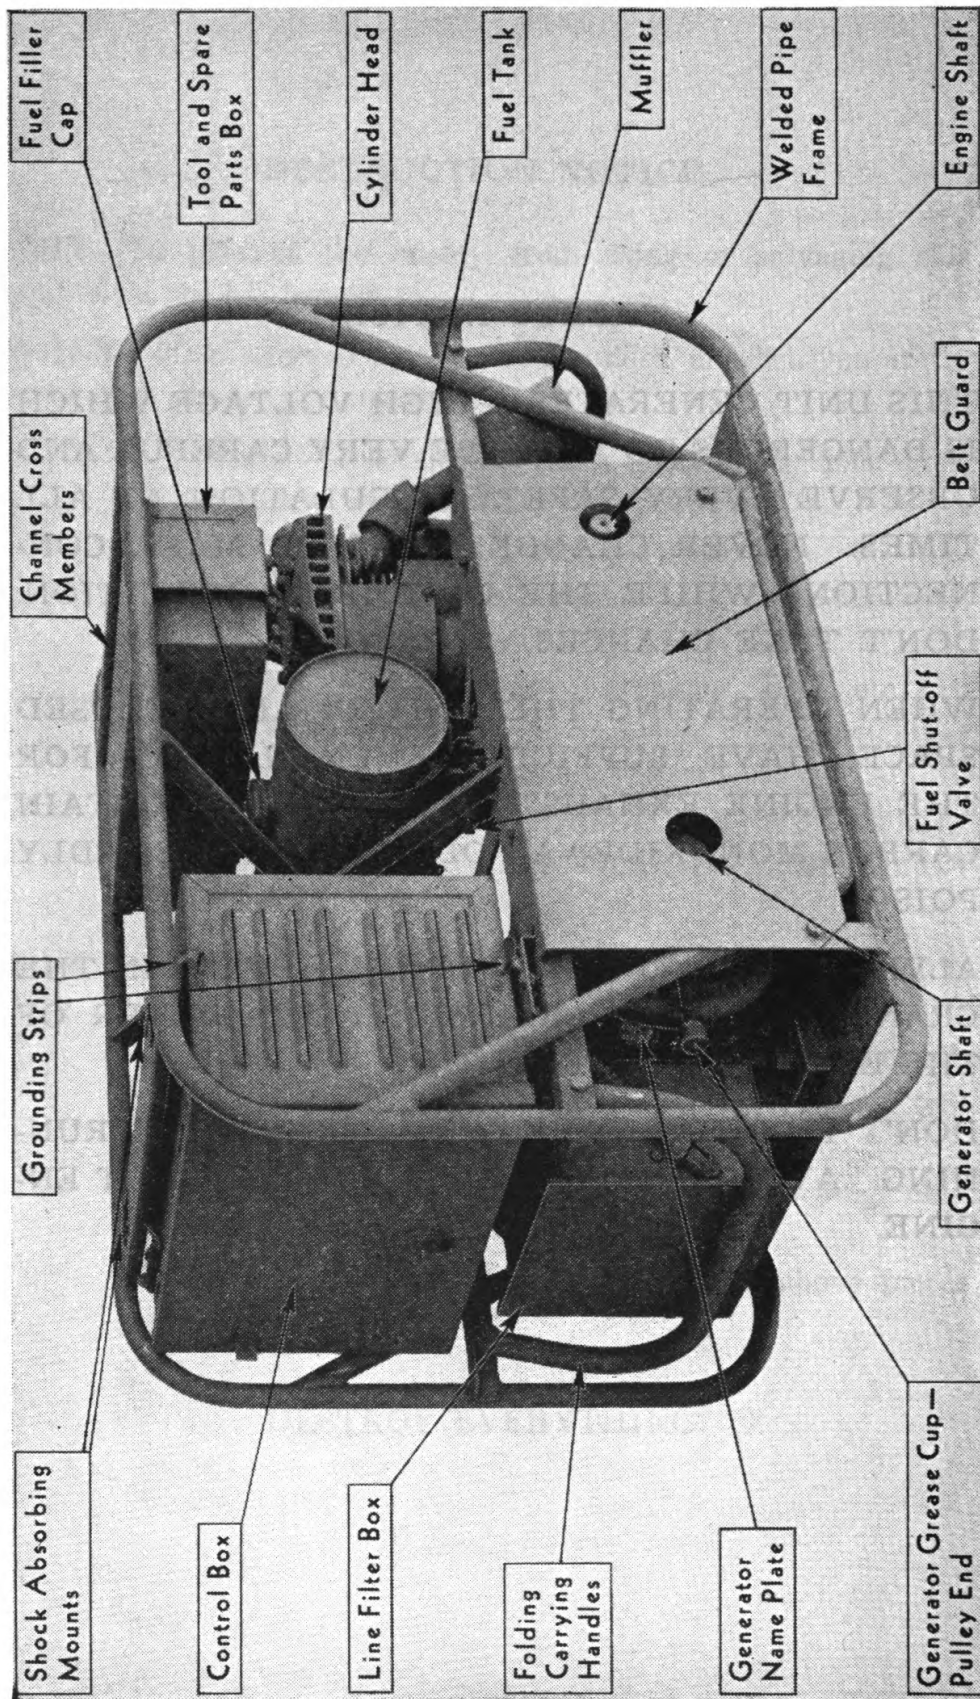
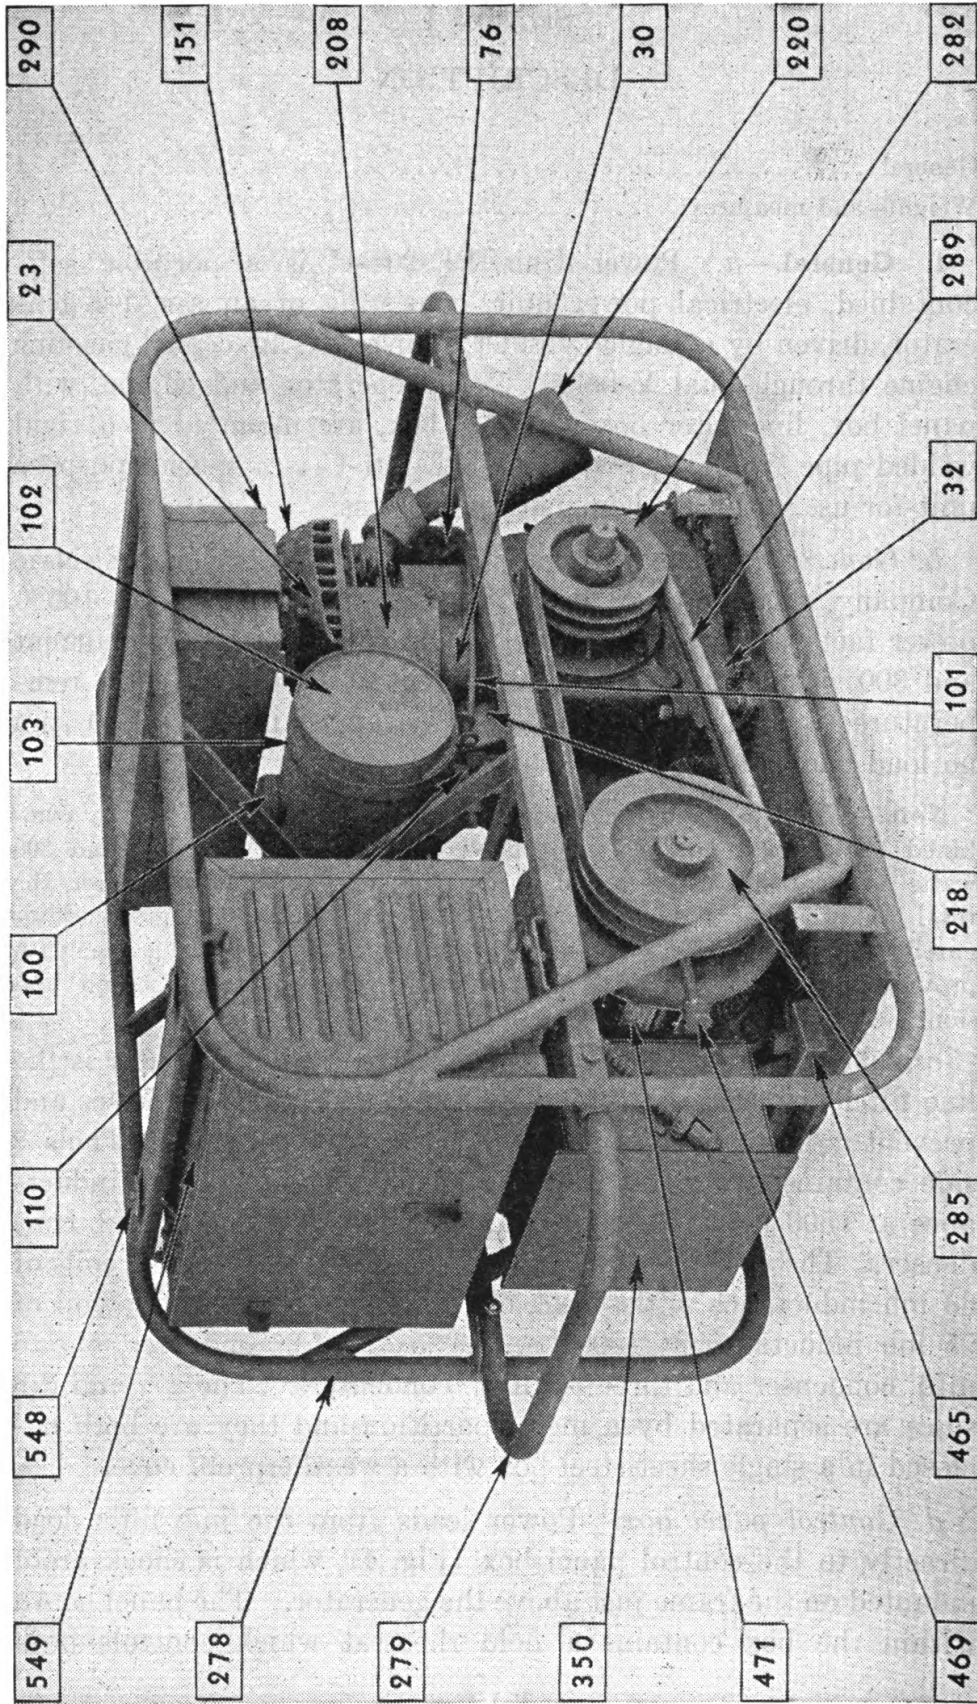
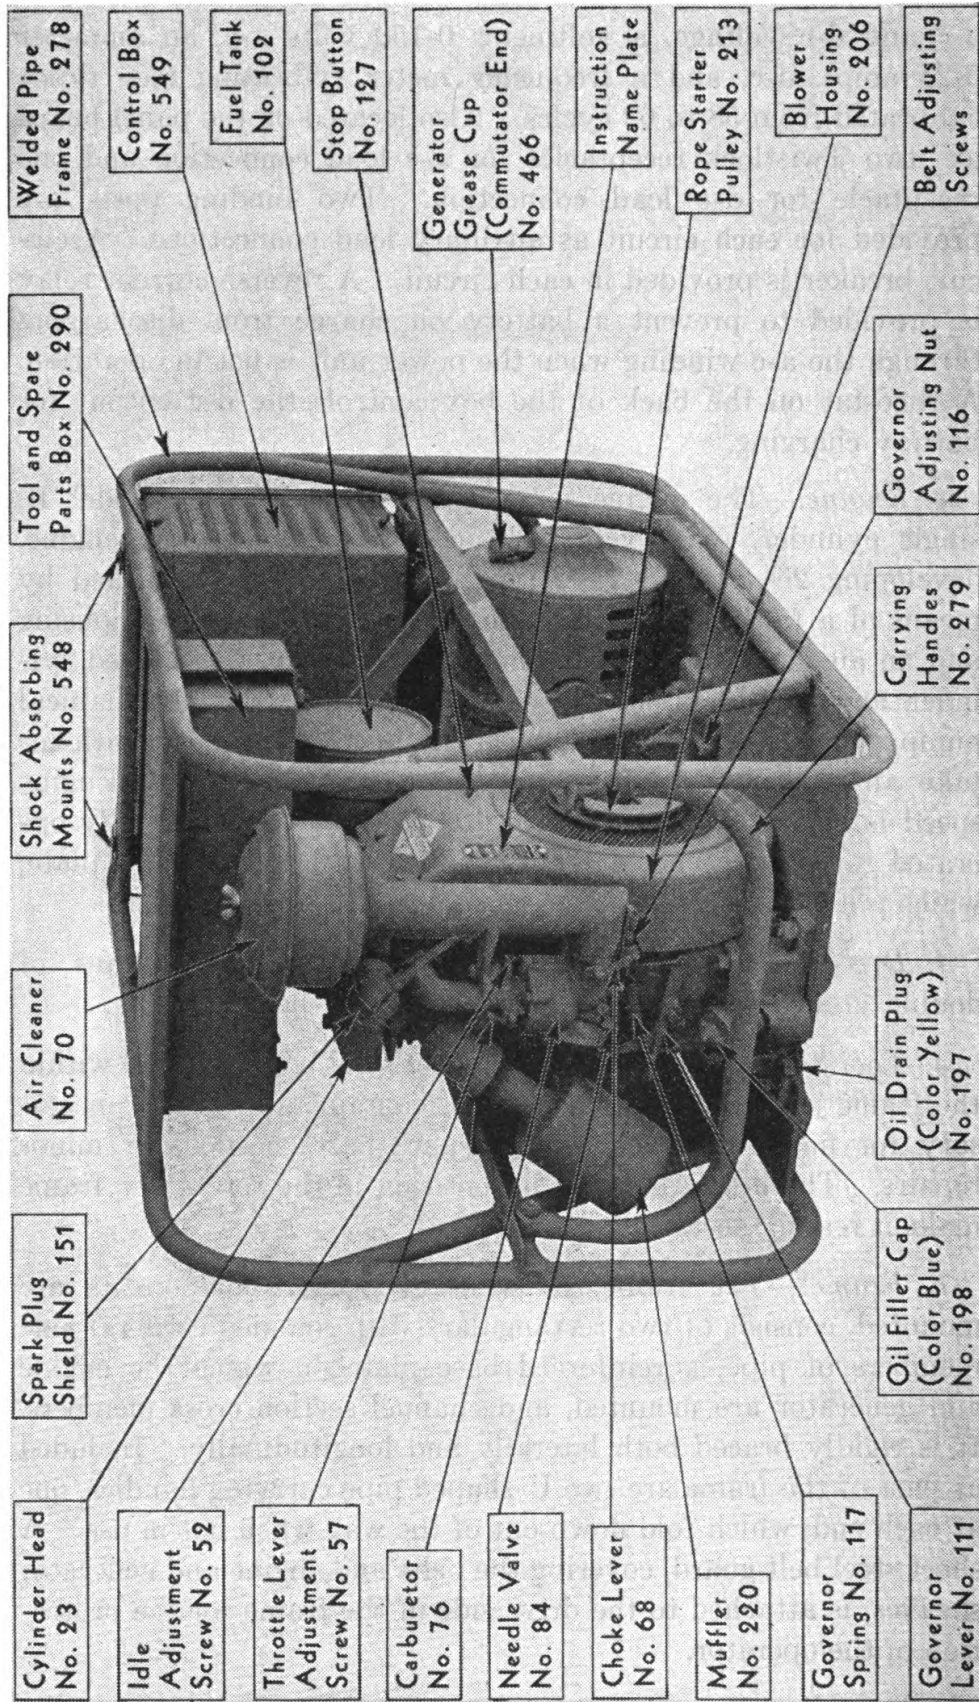

FIG. 1. POWER UNIT PE-201-C, DRIVE SIDE
FIG. 2. POWER UNIT PE-201-C, BELT GUARD REMOVED
FIG. 3. POWER UNIT PE-201-C, MAGNETO SIDE
4. Preparation for use.—*a.* Remove the fuel tank filler cap (100, Fig. 2), blow through it to make sure the air vent is clear, and fill the fuel tank (102, Fig. 2) with one gallon of clean, fresh gasoline, free from water or dirt. Replace filler cap immediately. Check the gasoline line (101, Fig. 2) and all connections for possible leaks.
b. Remove the oil filler cap (198, Fig. 3) and fill the oil reservoir with 3 pints of lubricating oil in accordance with the following temperature chart:
Replace the oil filler cap (198) immediately. Check oil drain plug (197, Fig. 3) to make sure that it is tightly closed and there is no leakage.
c. Remove the generator grease cups (466, Fig. 3) and (469, Fig. 2) and fill with U. S. Army Specification 2-108 grease. Re-
d. Fill the intake air cleaner (70, Fig. 3) with the same viscosity oil that is used in the crankcase, up to the ridge on the filter element, in accordance with its instruction label.
a. Starting.—Open the gasoline shut-off valve (91, Fig. 18) at the top of the gasoline filter (110, Fig. 18). Close the carburetor choke lever (68, Fig. 3). If the engine is hot this may be unnecessary or it may be only partly closed.
notches of the starter pulley (213, Fig. 3) and wind the rope around the pulley several turns. Crank the engine by a quick steady pull at the starting line. If the engine starts, open the choke slowly until the engine operates smoothly. If the engine fails to start after two or three attempts, open the choke and crank the engine again. Should it refuse to start with the choke open or closed, consult the trouble chart on page 41.
b. Stopping.—Press the stop switch button (127, Fig. 3) on the blower housing (206, Fig. 3) and keep it depressed until the engine stops. If the unit is to be idle for a prolonged period, shut off the fuel supply. Don't press the stop button in this case.
d. Air cleaner.—The air cleaner (70, Fig. 3) protects the engine from dust and dirt. Clean the air cleaner occasionally by washing the outside of the filter element (69) with a rag or brush dipped in Diesel oil. **DON'T SUBMERGE THE FILTER ELEMENT.** Clean the bowl (73) by submerging in Diesel oil. Fill the cleaner up to the level marked on the cleaner bowl with oil of the same grade as used in the crankcase.
f. Governor.—The speed of the engine is automatically maintained under varying loads by a centrifugal governor (118), operated from the cam gear. The governor was carefully pre-adjusted to maintain normal speed under load. *Do not readjust unless absolutely necessary.* It can be changed by reducing or increasing the tension of the governor spring (117). Turn the governor adjustment nut (116) clockwise (to the right) to increase engine speed and output frequency; to the left, or counterclockwise, to reduce engine speed and frequency.
h. Lubrication.—Add oil to the crankcase after every five hours of engine operation. After every 25 hours of engine operation, the oil must be completely drained by removing the drain plug (197, Fig. 3). Do this while the engine is still warm. After complete drainage, replace the drain plug (197). Never flush the oil reservoir. Remove the oil filler cap (198, Fig. 3) and refill the oil reservoir with 3 pints of oil of the proper viscosity, as indicated by the lubrication chart in paragraph 4*b*. Replace the oil filler cap (198). Check the generator grease cups (466, Fig. 3) and (469, Fig. 2) every time the engine oil is changed, paragraph 4*c*.
i. Fuel system.—When the engine is used frequently, keep the fuel tank (102, Fig. 2) filled at all times to avoid the formation of gum. If the engine is used only occasionally, drain the fuel tank completely when not in use. Allowing gasoline to evaporate slowly in the fuel tank causes the formation of gum. To clean the gas filter (110), close the shut-off valve (91), open the thumb nut on the filter bowl yoke (108) and remove and clean the glass bowl and screen. Remove the gas line (101, Fig. 2) and blow through it to make sure that it is not clogged. Reassemble the gasoline filter (110), reconnect the gas line (101), open the shut-off valve (91) and check for leakage. If there is the slightest leakage at the filter bowl, replace the filter bowl gasket (98).
j. Spark plug.—Clean the spark plug (148) after each 100 hours of operation, and reset the points to .025 in. with the combination gauge and tool (602) supplied in the tool box (Fig. 1). See that the porcelain on the spark plug is not cracked or broken. If the spark plug is damaged in any way, replace with a new one. The spark plug should be kept dry during operation, as water may permit leakage of the high voltage current over the surface of the porcelain. To clean the spark plug, scrape or sandpaper the points and wash the deposits from the points with cleaning solvent P-S-661A. Check the gap after cleaning, as the points have a tendency to burn off during use. Put a little cup grease on the threads before replacing in the cylinder head. Be careful not to get any grease on the points. Replace ignition cable and replace spark plug shield (151, Fig. 3). Failure to replace the shield will cause serious radio interference.
k. *Carburetor adjustment.*—To adjust the carburetor (76, Fig. 3) completely close needle valve (84, Fig. 3) by turning it to the right, or clockwise, as far as possible. Do not screw up too tight or use force when closing needle valve, as valve and seat will be damaged. From closed position, open the needle valve one to one and one-quarter turns. After the motor has been started and warmed up, make final adjustment, with choke (68,
Fig. 3) wide open, by turning the needle valve (84, Fig. 3) to the point at which the engine runs most smoothly under full load. This setting will also take care of starting a cold engine when using the choke. When starting a cold engine, if it is necessary to keep the choke (68) partially closed for several minutes before the engine runs smoothly, the carburetor mixture is too lean, and the needle valve (84) should be turned a little to the left, or counter-clockwise. The idler adjustment screw (52, Fig. 3) setting is done in the same manner. Turn down the screw to the right or clockwise until it is closed, but do not force